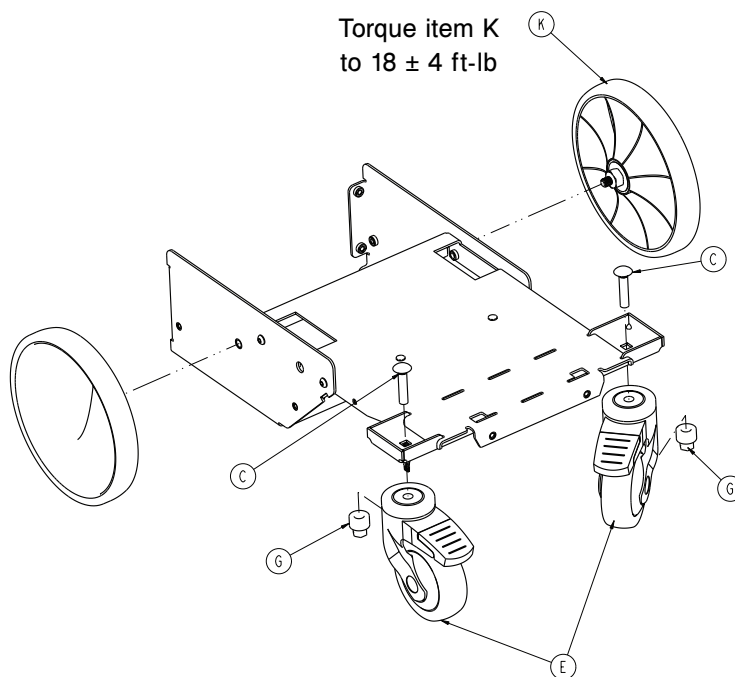

Figure 13: Rear swivel lock casters
3. Using a 9/16" combination wrench, loosen and remove the nut that secures the rear swivel lock caster to the frame. Remove and discard the rear swivel lock caster (Figure 13 on page 24).